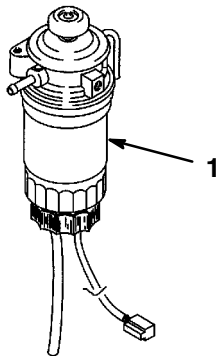

Figure 36
1. Clean the area where the filter canister mounts (Fig. 36).